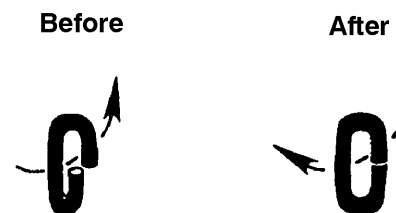

Figure 9
6. Using an adjustable wrench, twist the link horizontally until the link is in the original closed position (Figure 9).